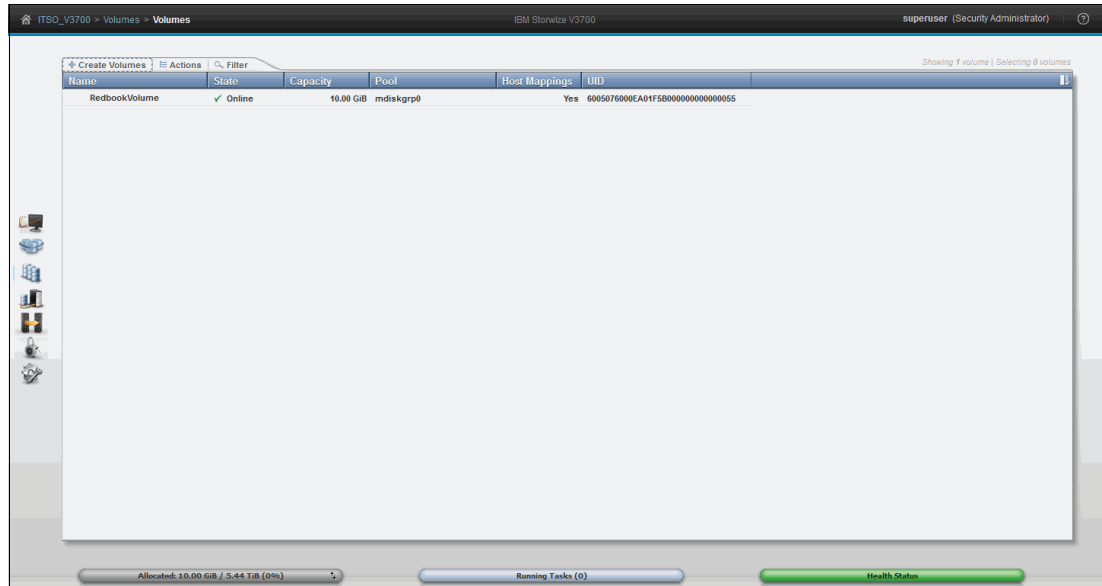

Figure 5-23 The Volumes view with the newly created and mapped volume listed
5. Click **Close** to return to the Volumes view, which now lists your newly created volume, as shown in Figure 5-23.